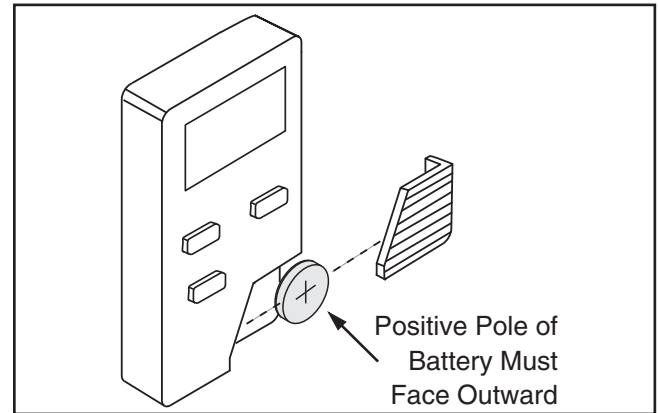

Figure 43. Digital height scale battery replacement.
2. Replace the battery with the positive side facing out, as shown in **Figure 43**.